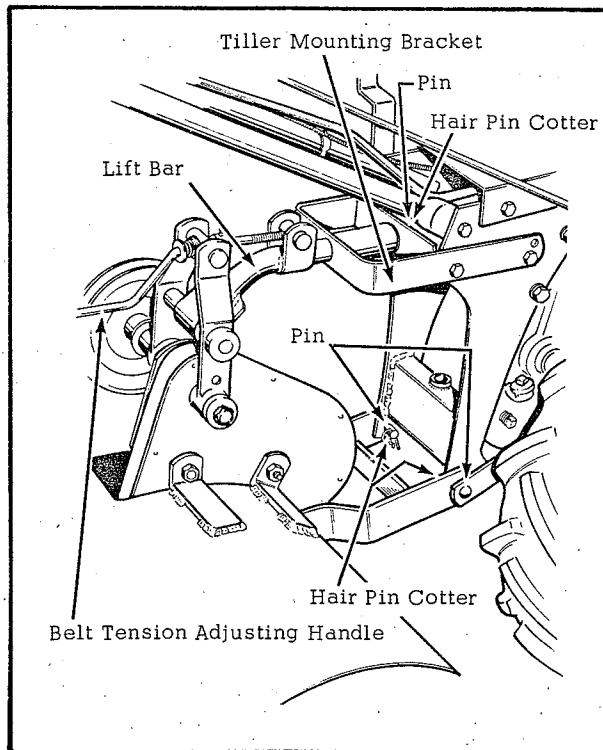

Fig. 5
1. Assemble the tiller mounting bracket to the upper portion of the rear frame of tractor as shown in figure 5, using hex capscrews, lockwashers and hex nuts provided.
2. Position the tiller in back of the tractor and insert the tiller lift bar into the tube of mounting bracket as shown in figure 5. Depress the tractor handles until the mounting bracket is lowered sufficiently to allow the tiller lift bar to slide into the tube. Secure in place with a pin and hair pin cotter.
Release the tractor handles and the tiller will raise and swing forward. Guide the tiller frame into position on lower mounting points of tractor rear frame, and secure in place with 2 pins and hair pin cotters as shown in figure 5.
Adjustment of tension of the tiller drive belt is regulated by the belt tension adjusting screw shown in figure 5. Turn the handle in a clockwise direction to increase the belt tension and counter-clockwise to decrease tension. The belt should have tension sufficient to transmit power to the tiller drive shaft.